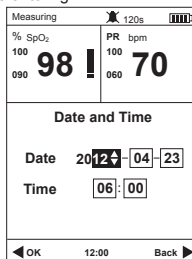

Fig.4-2
2) Press the Navigation button to select "Date and Time" item, and then press the OK button to enter the time setup screen, refer to Fig.4-2.